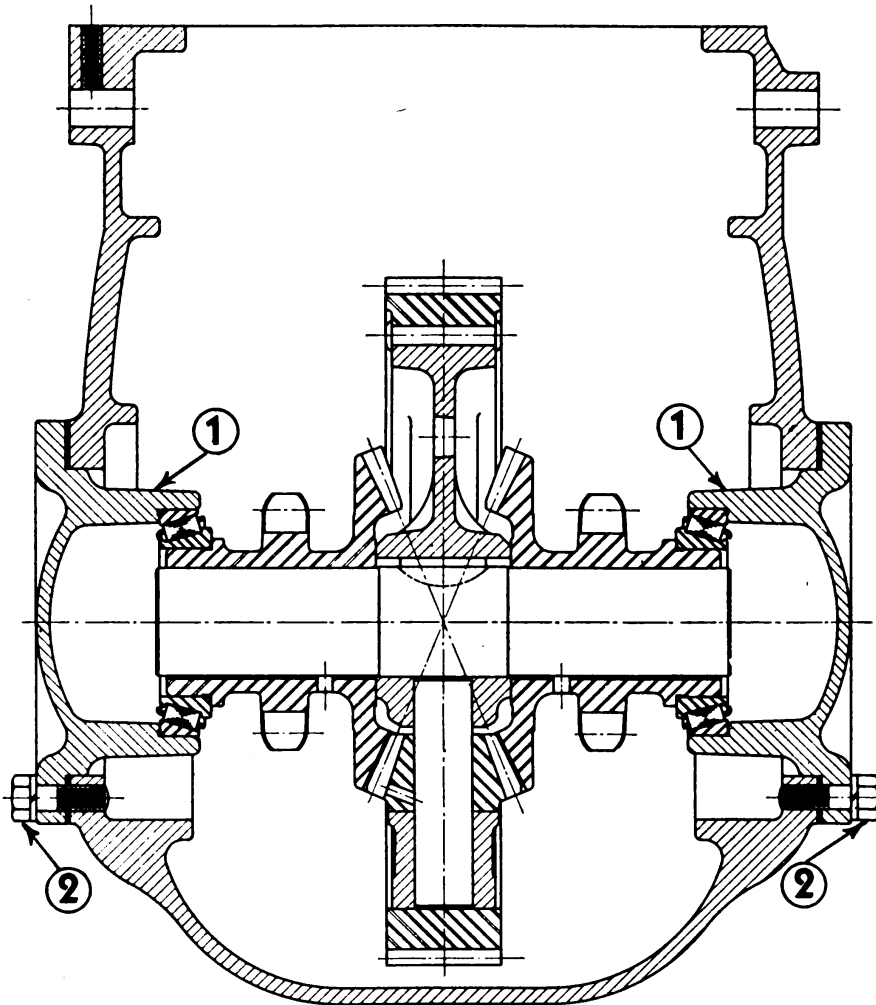

Fig. 34. Differential Shaft
Drain all the oil from the transmission and take off the rear transmission cover. Remove the drive chains by taking out the master link in each one. Remove differential bearing carriers (1) from each side by removing 4 cap screws, shown at 2, Fig. 34. The bearing carriers (1) with their shims should be removed from each side of the transmission case. By using a rope or sling around the differential, remove the assembly up through the top.